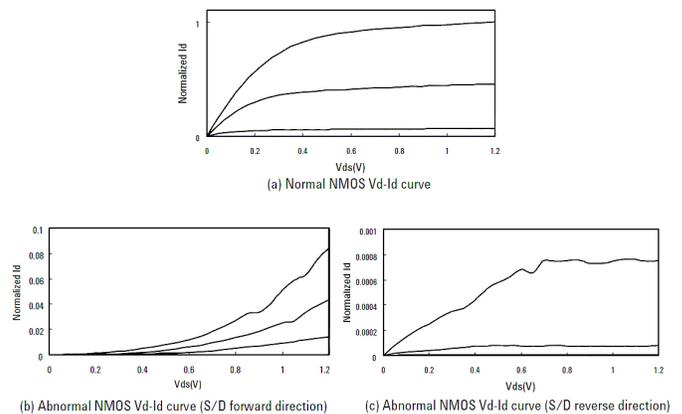

Figure 3. Failure analysis data on dopant profile defect
In order to perform a more detailed analysis on the defective transistor it is necessary to measure the transistor by switching the roles of the source (S) and the drain (D). Figure 3 (a) shows
normal transistor characteristics, and Figure 3 (b) shows the characteristics of the apparently bad transistor. Figure 3 (c) shows data measured by reversing the source/drain (S/D) of the transistor (note: this can be done very easily using the B1500A and does not require changing any device connections). In the case where the S/D is in the forward direction, only a digit less current than the normal value flows and the I-V curve shows a downward tendency. Conversely, in the case where the S/D is in the reverse direction, although the IV curve shows an upward tendency, less than 1/1000 of the normal amount of current is flowing.